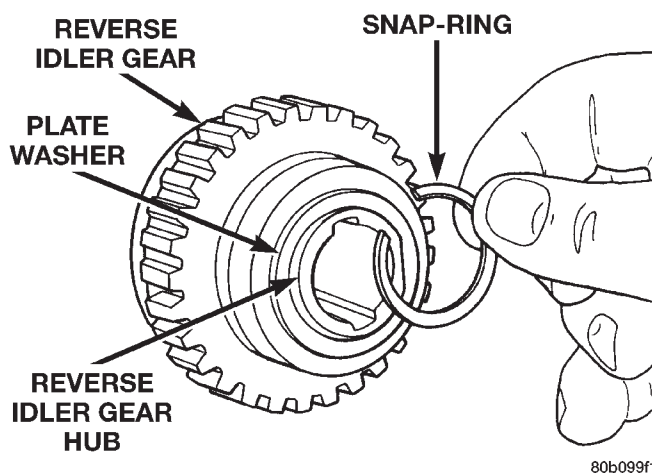

Fig. 115 Remove Reverse Idler Gear Snap-ring
- (1) Remove snap-ring holding the reverse idler gear onto the reverse idler gear hub/race (Fig. 115).